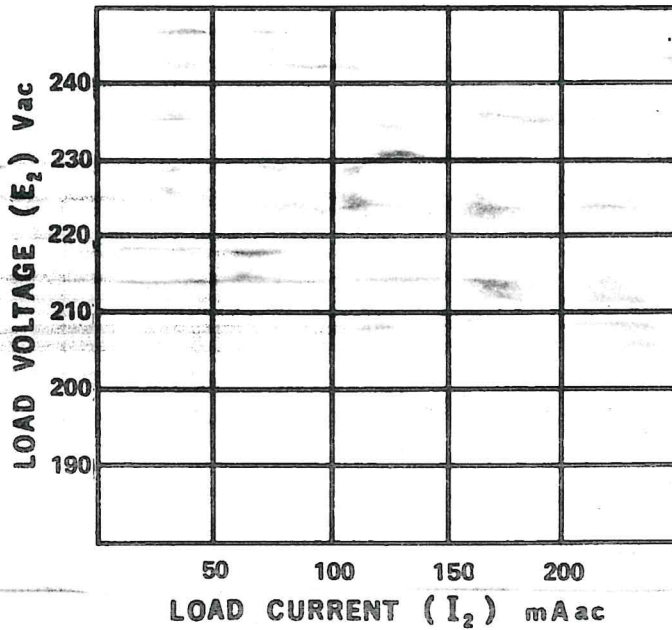

Fig. 41-3
- ☐ a) Plot your recorded values of E_2 (at each value of I_2 listed in Table 41-1) on the graph of Fig. 41-3.